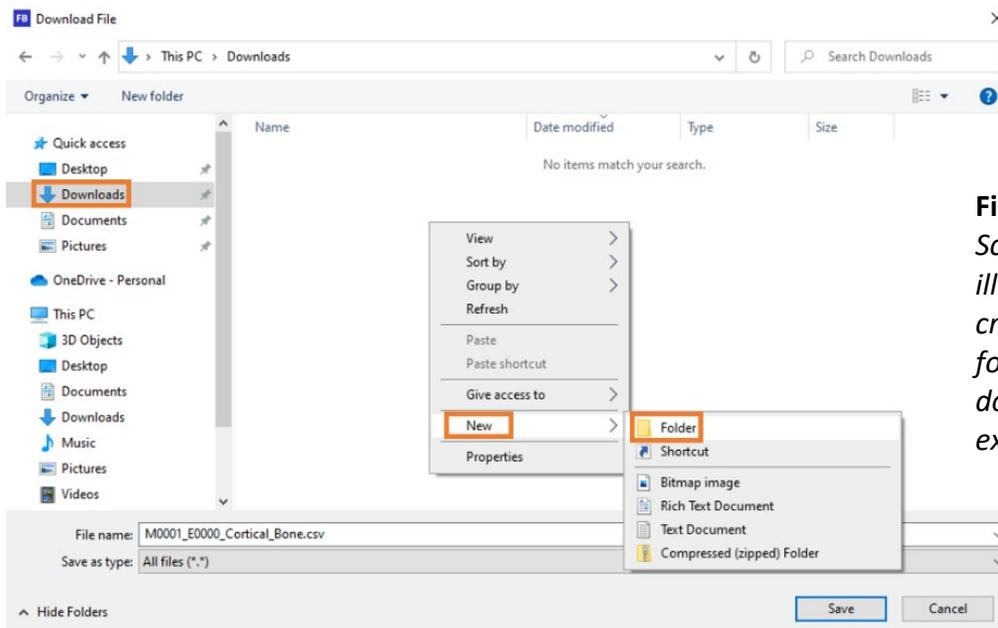

Figure 16:
6. On the left-hand side of this window, click on the "Downloads" folder. If you have multiple .csv files (or DICOMs for DICOM exporting), we recommend creating a custom folder within the "Downloads" folder to store data. To create the folder: right-click in the empty space → hover your mouse cursor over "New" → click on "Folder" → give the folder an appropriate name → save your .csv files inside it. Refer to Figure 16 below for help. ***Note: Users shall only create ONE folder per experiment to store any data.**